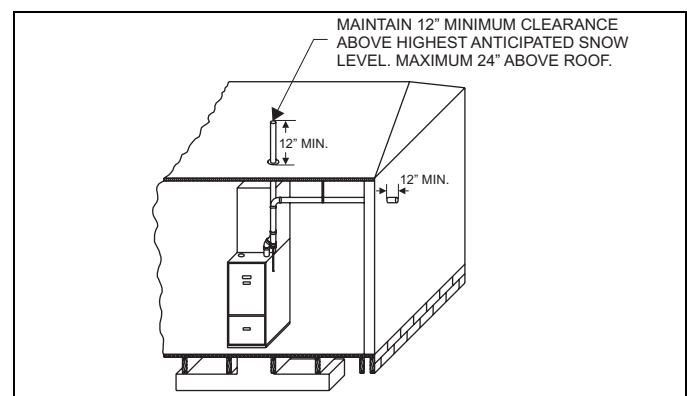

FIGURE 20: Termination Configuration - 1 Pipe
2. **AMBIENT COMBUSTION AIR:** Combustion air is supplied from the area surrounding the furnace through the combustion air pipe in the furnace casing. The combustion air and the vent pipes are not terminated in the same atmospheric zone. Refer to Figures 20 & 27 for vent terminations. Refer to "AIR SOURCE FROM INSIDE THE BUILDING" and "VENT AND SUPPLY AIR SAFETY CHECK" for proper installation.
This type installation will draw the air required for combustion from within the space surrounding the appliance and from areas or rooms adjacent to the space surrounding the appliance. This may be from within the space in a non-confined location or it may be brought into the furnace area from outdoors through permanent openings or ducts. It is not piped directly into the burner box. A single, properly sized pipe from the furnace vent connector to the outdoors must be provided. For upflow models combustion air is brought into the furnace through the unit top panel opening. Do not install a pipe into the combustion air pipe at the top of the furnace. Refer to Figures 20 & 27.